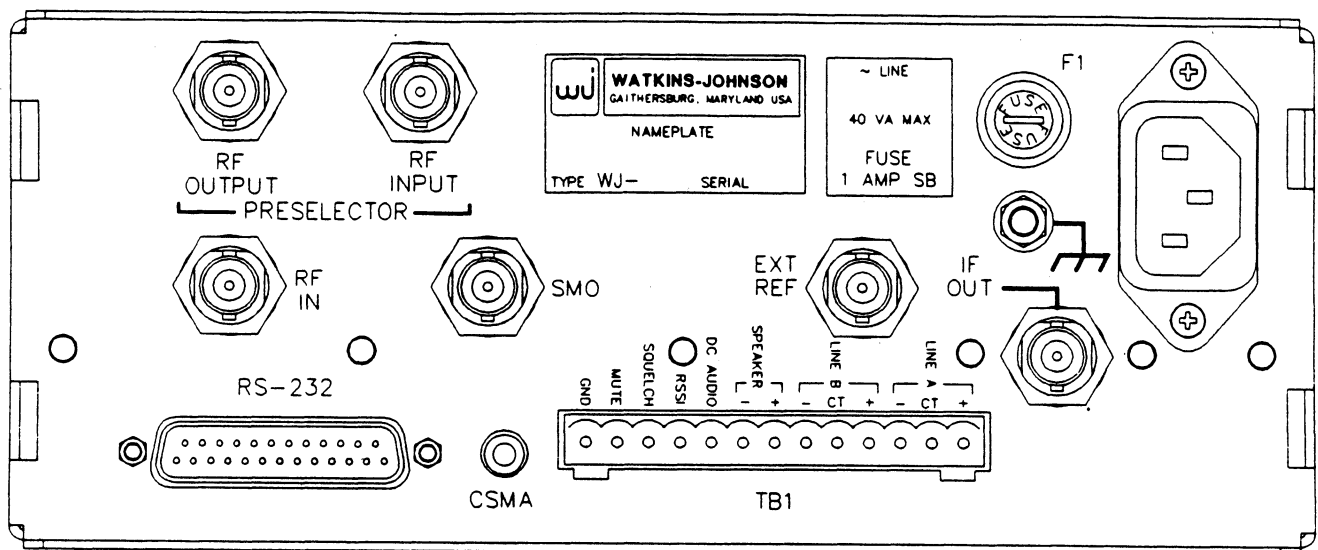

Figure 2-2. WJ-8712 Rear Panel
A 1 amp, slo-blo fuse (F1) is provided and located on the rear panel of the receiver (see Figure 2-2). This type fuse is to be used for operation anywhere in the VAC range.
2.2.3.11 Ground Stud - A #10 threaded grounding stud is located on the rear panel for grounding the receiver in an equipment frame. See **Figure 2-2** for the location of this grounding stud.